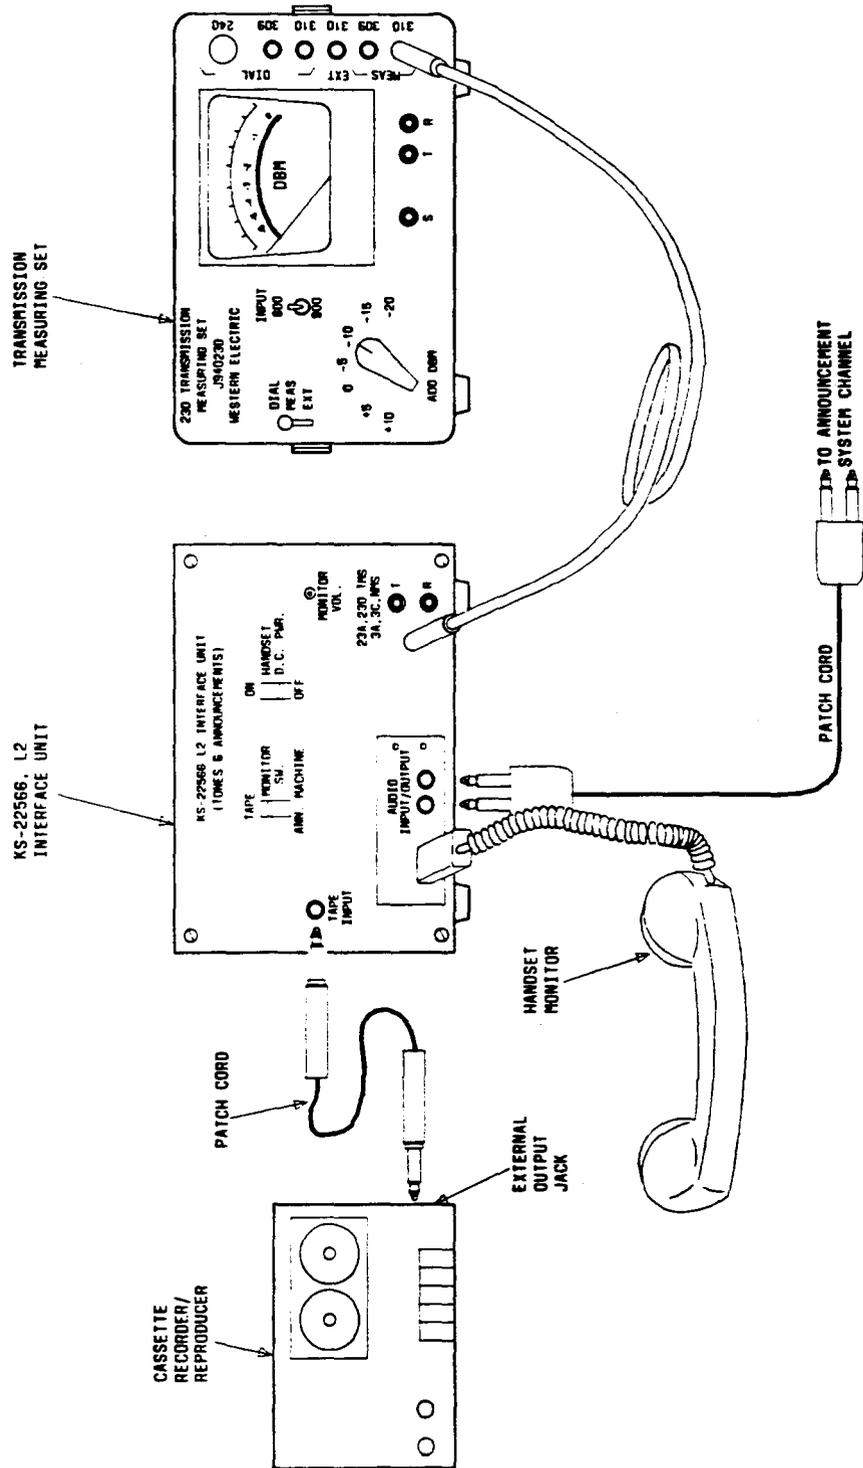
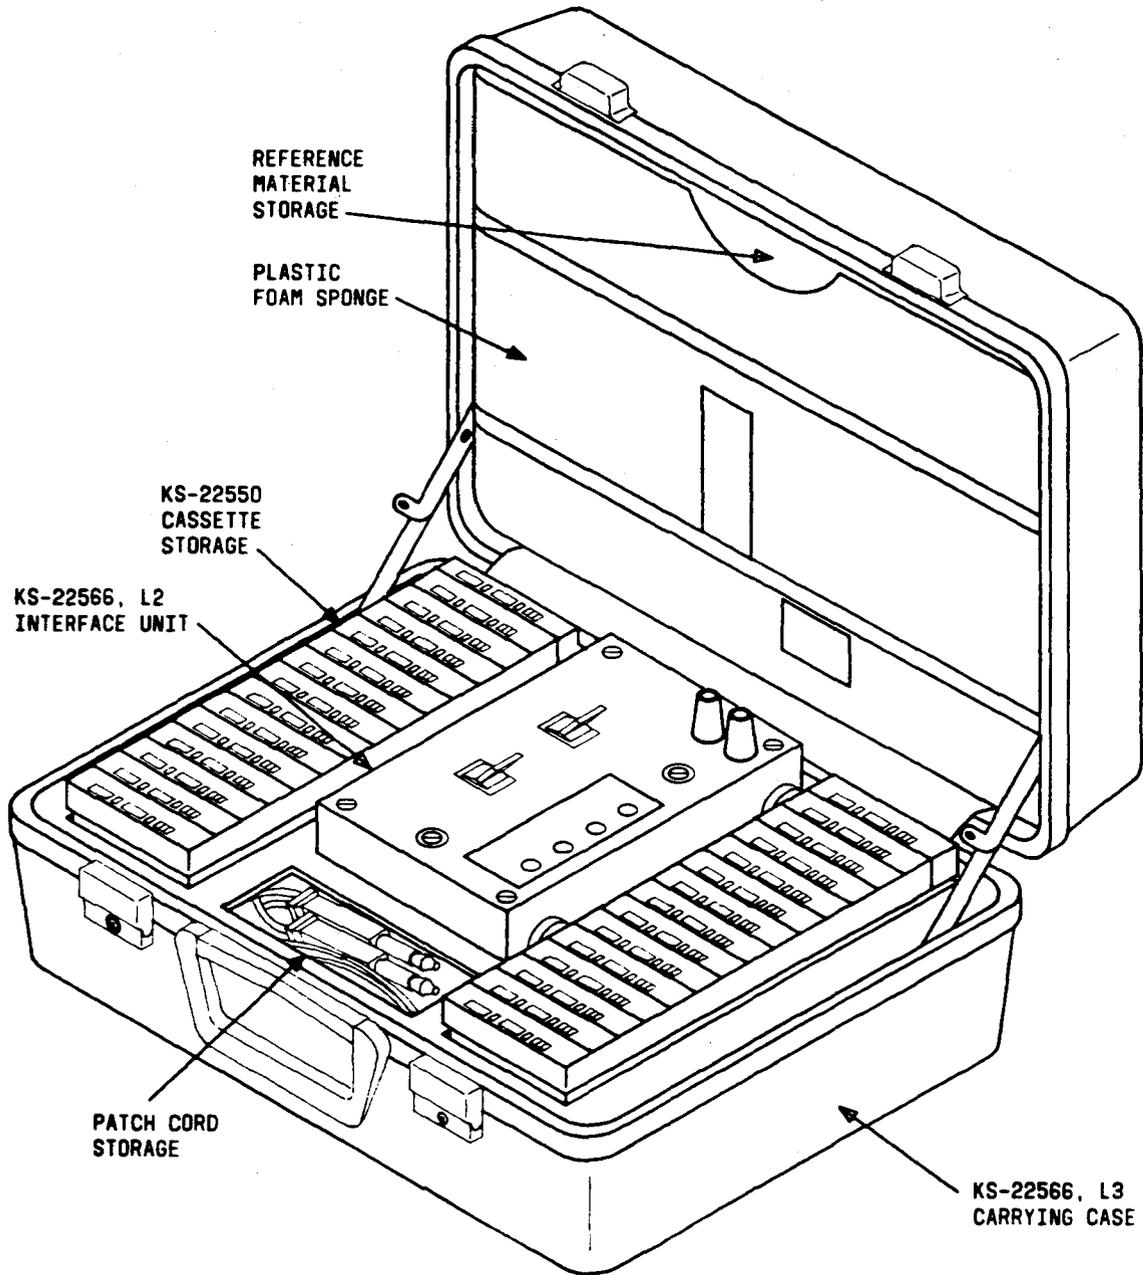

Fig. 2 - Recording Apparatus (3.01)
Fig. 3 - Recording Interface Kit (3.06)
3.06 This portable kit (Fig. 2) consists of a KS 22566L2 interface unit (Fig. 3), a set of a 4 patch cords, and storage space for up to 30 KS 22550 cassettes, with a compact carrying case for efficient transport and storage. A pocket, located in the kit cover is provided for the storage of Practices and other written material.